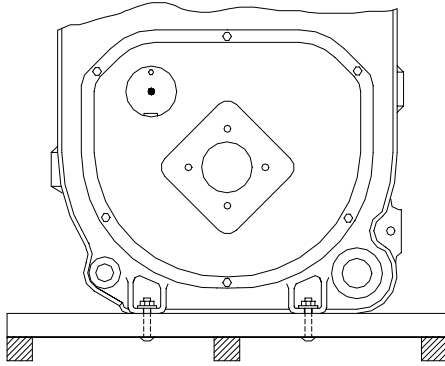

Figure 2
1. Boiler is secured to base with 4 bolts, 2 on front and 2 on rear, see Figure 2. Remove all bolts.